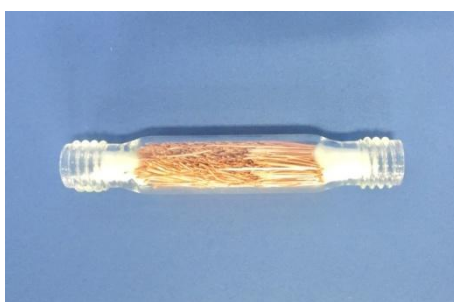

Fig.6.26
5)Block the ends of the halogen removal tube with quartz wool (Fig. 6.26).